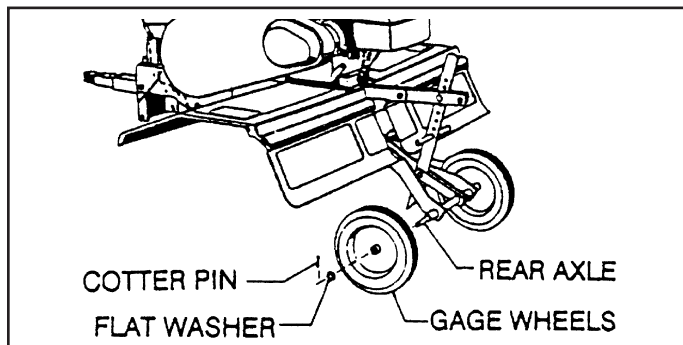

FIGURE 2
- Assemble Gauge Wheels onto the Rear Axle with the extended end of Hub facing inward. Secure with the Flat Washers and Cotter Pins which you removed from the axle during unpacking. See figure 2.